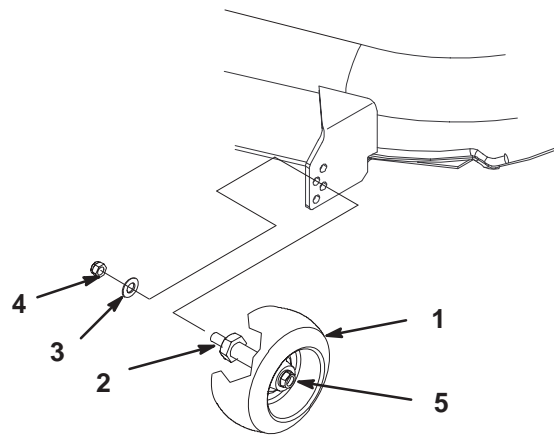

Figure 16
1. After adjusting height-of-cut; remove nut and washer while holding stud with wrench (Fig. 16).
Note: Do not remove the wheel nut and washer (Fig. 16).
2. Select a hole position so the gage wheel is a minimum of 3/8 in. (9.5 mm) off the ground for the height-of-cut to be used (Fig. 16).
3. Reinstall the stud nut and washer (Fig. 16).